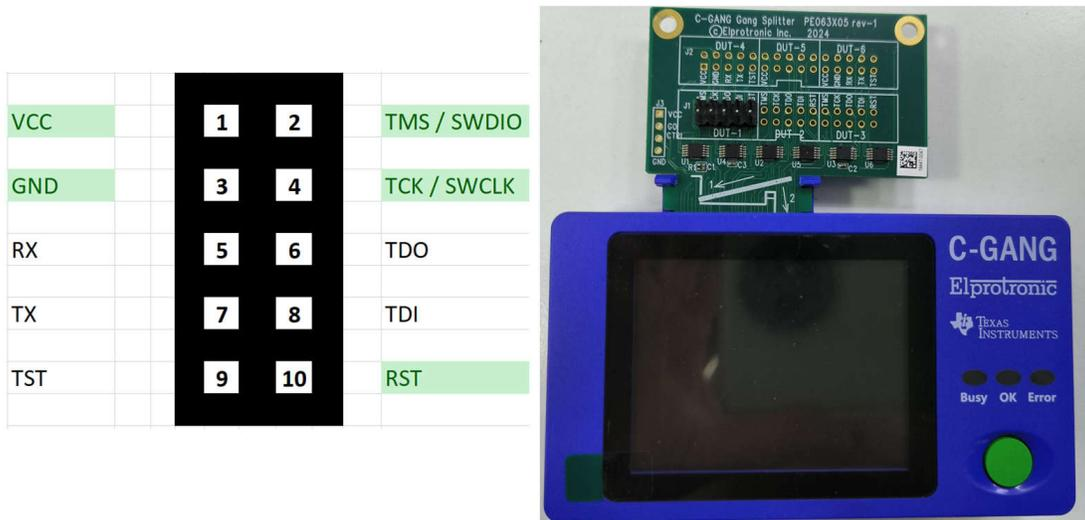

Figure 4-6. C-Gang Pin Assignment
- Finish connection between C-GANG and the connector board, as shown in Figure 4-6. Finish the pin connection between MSPM0 and C-GANG. The least used pins are VCC, GND, SWDIO, SWCLK. If users want to use *Clear Locked Device* function, then the reset pin is also needed.